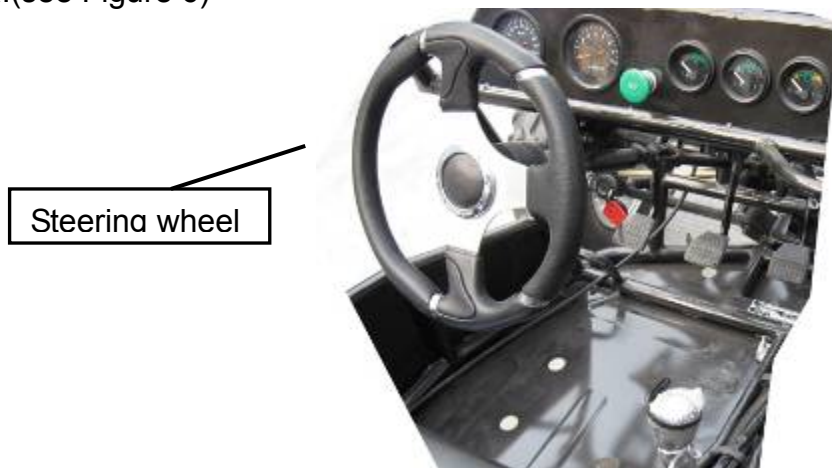

Figure 6
14. Check Steering. Check for free operation and for any unusual looseness in any area.(see Figure 6)